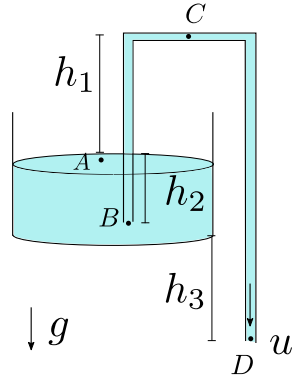

Figure 15: Siphon
17. Consider the siphon shown in figure 15. The heights are indicated. The liquid flows out of the tube with a velocity u . Can you calculate this by applying Bernoulli's equation between points B and D? If yes, then show. If not, then which pair of points maybe used? Assume atmospheric pressure is p_0 .